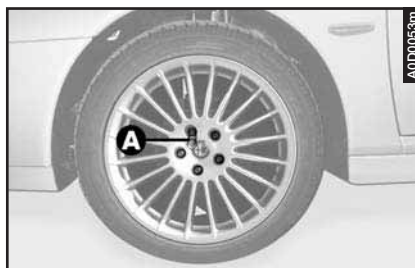

fig. 19
– Remove the centering pin (A-fig. 19) and screw the last fastening bolt.